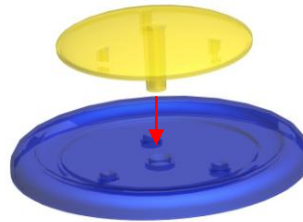

Fig. 13
11. Attach the wheel covers (2) on each wheel (1). (Fig. 13)